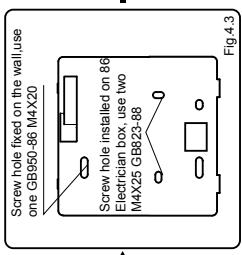

Fig.4.2
- Use three GB950-86 M4X20 screws to directly install the back cover on the wall. (Fig.4.2)